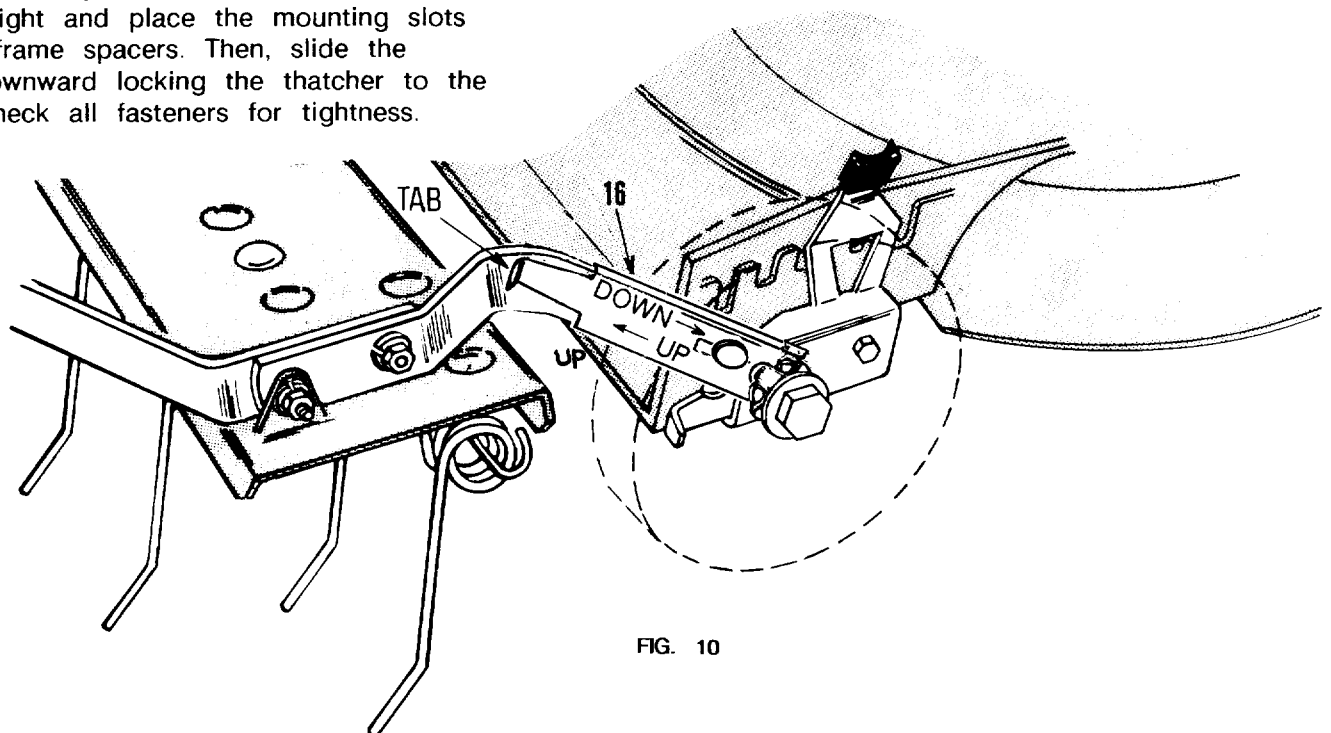

FIG. 10
Fig. 10. Install your dethatcher by sliding both latches (16) up to clear the mounting slots on the mount bars. Then position the front wheel adjustments on your mower to the lowest cutting height and place the mounting slots over the frame spacers. Then, slide the latches downward locking the thatcher to the mower. Check all fasteners for tightness.